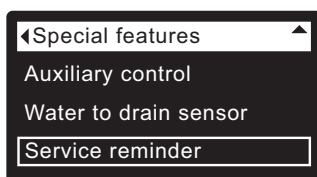

FIG. 80
1. From any of the rolling status screens, press the SELECT (O) button to display the **Main menu**.
3. Press the SELECT (O) button to display the Advanced settings menu.
5. Press the SELECT (O) button to display the Special features menu (See Figure 80).
9. Press the SELECT (O) button. The display will go back to the Special features menu (Figure 80).